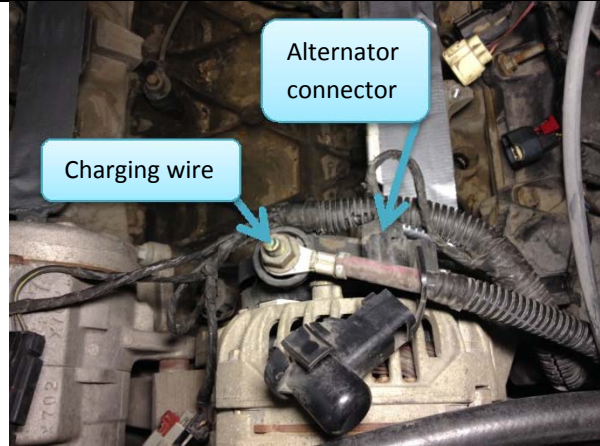

Figure 19: Alternator wire connector and charging wire.
- 13.1. Disconnect alternator charging wire nut (Figure 19)
- 13.2. Disconnect alternator wire connector (Figure 19)